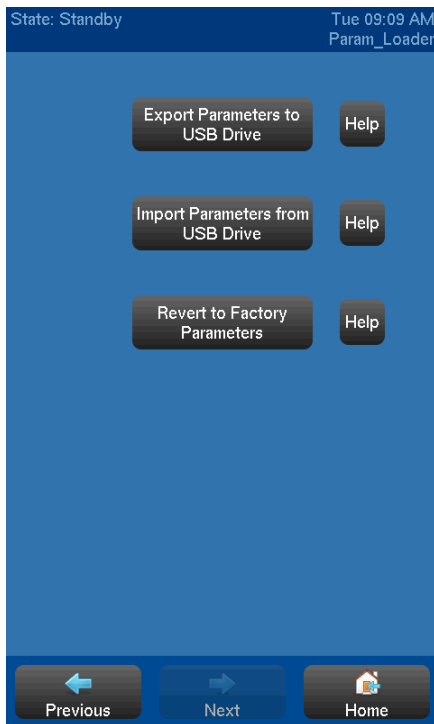

Figure I-1:
- 6) To upload parameters from the NURO to a USB flash drive, press **<EXPORT...>** [Figure I-1].
- 7) To download parameters from a USB flash drive to the NURO, press **<IMPORT...>** [Figure I-1].
- 8) To revert to factory-default OEM parameters, press **<REVERT...>** [Figure I-1] and enter the appropriate Service Level passcode.